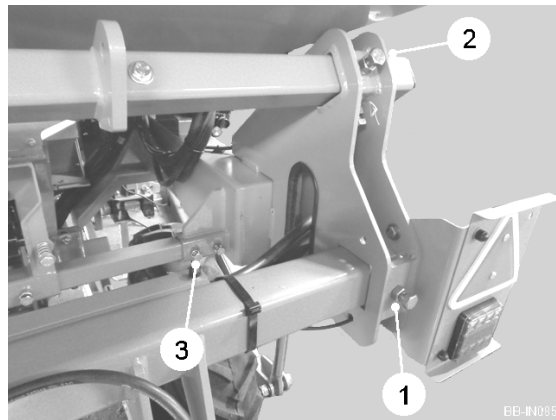

Fig. 3
2. Loosen the rear cross beam setscrews x2 (item 1, fig. 3), the hopper support beam setscrews x2 (item 2, fig. 3) and the feed belt support beam setscrews x2 (item 3, fig. 3).